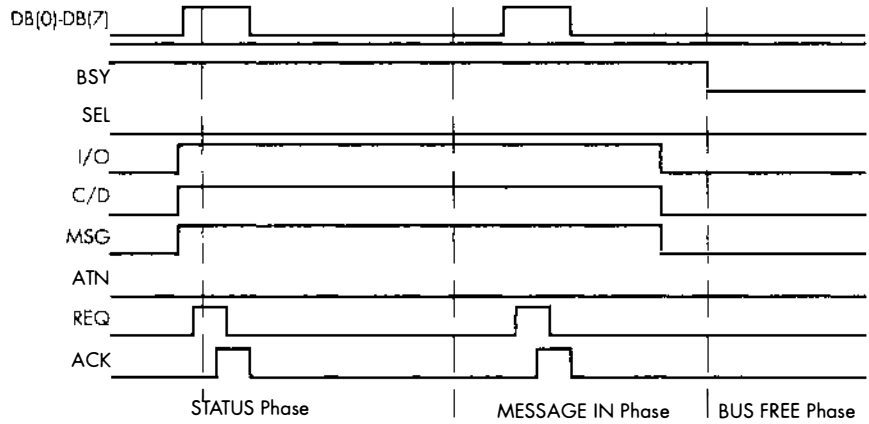

Figure A.30: MESSAGE IN Phase and BUS FREE Phase
- STATUS MESSAGE IN phase followed by a BUS FREE phase (Figure A.30)